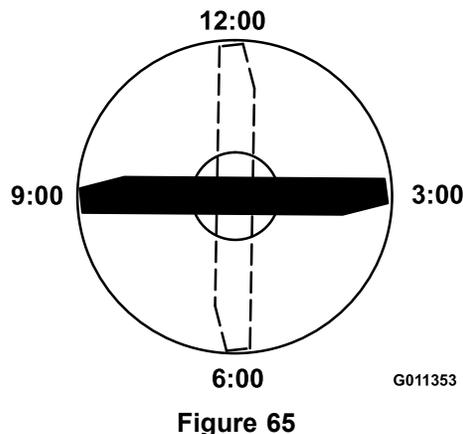

Figure 65
- Position the cutting edge of the marked end of the blade at the 12 o'clock position (straight ahead in the direction of mowing) and measure the height from the table to the cutting edge of the blade (Figure 65).
- Rotate the marked end of the blade to the 3 o'clock and 9 o'clock positions and measure the heights (Figure 65).